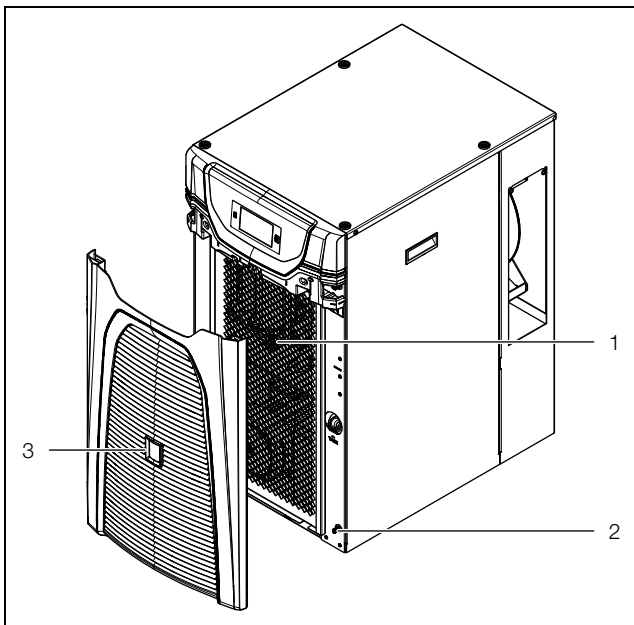

Fig. 31: Pull off the louvred grille 3320200 and 3334300
- At the front of the chiller, pull the louvred grille (fig. 31, item 3) away from the mounting clips (fig. 31, item 2), and place or lay it down somewhere safe.